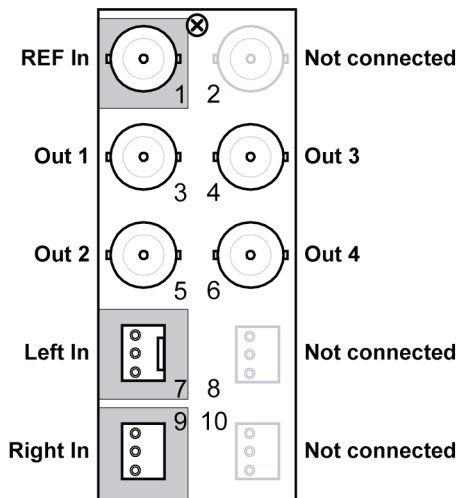

Figure 4. Cable Connections for the R1-8432 and R2-8432 Rear Modules
- **R1-8432 Rear Module** — Each card occupies one slot and provides one 75Ω AES/EBU external reference input, four 75Ω AES/EBU outputs on BNC connectors, and one stereo analog audio input on 3-pin Weco™ block connectors. Refer to **Figure 4** for cable connections.
- **R2-8432 Rear Module** — Each card occupies two slots and provides one 75Ω AES/EBU external reference input, four 75Ω AES/EBU outputs on BNC connectors, and one stereo analog audio input on 3-pin Weco block connectors. Refer to **Figure 4** for cable connections.